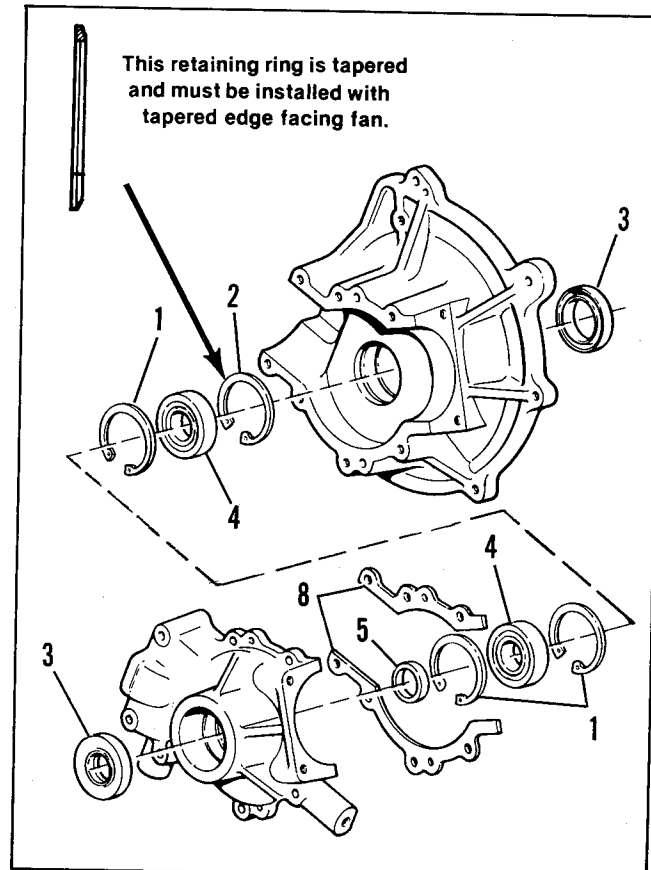

Figure 7-16 - Crankcase Oil Seals and Retaining Rings
- i. Pull out the oil seals (3), Figure 7-16.
- j. Remove retaining rings (1) and tapered retaining ring (2) from the crankcase halves, Figure 7-16.
- k. Remove spacer (5) and gasket (8), Figure 7-16.
- l. Install crankcase halves on press bed and press crankcase bearings (4) out, Figure 7-16.
Assembly (Figure 7-16)